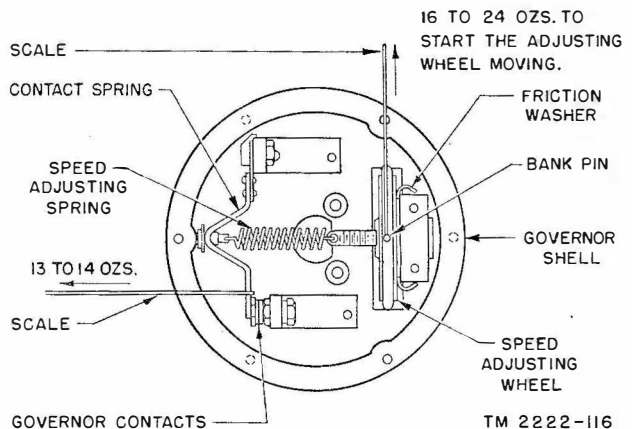

Figure 73. Governor speed adjusting wheel friction washer requirements.
(fig. 73)
a. PREPARATION. A preliminary adjustment must be made in order to check the requirements. Remove the target and governor cover. Turn the speed adjusting wheel to the right or left until a pull of 13 to 14 ounces just separates the governor contacts. Hook a 32-ounce scale over the contact spring near the contact (fig. 73) and pull in line with the speed adjusting spring.